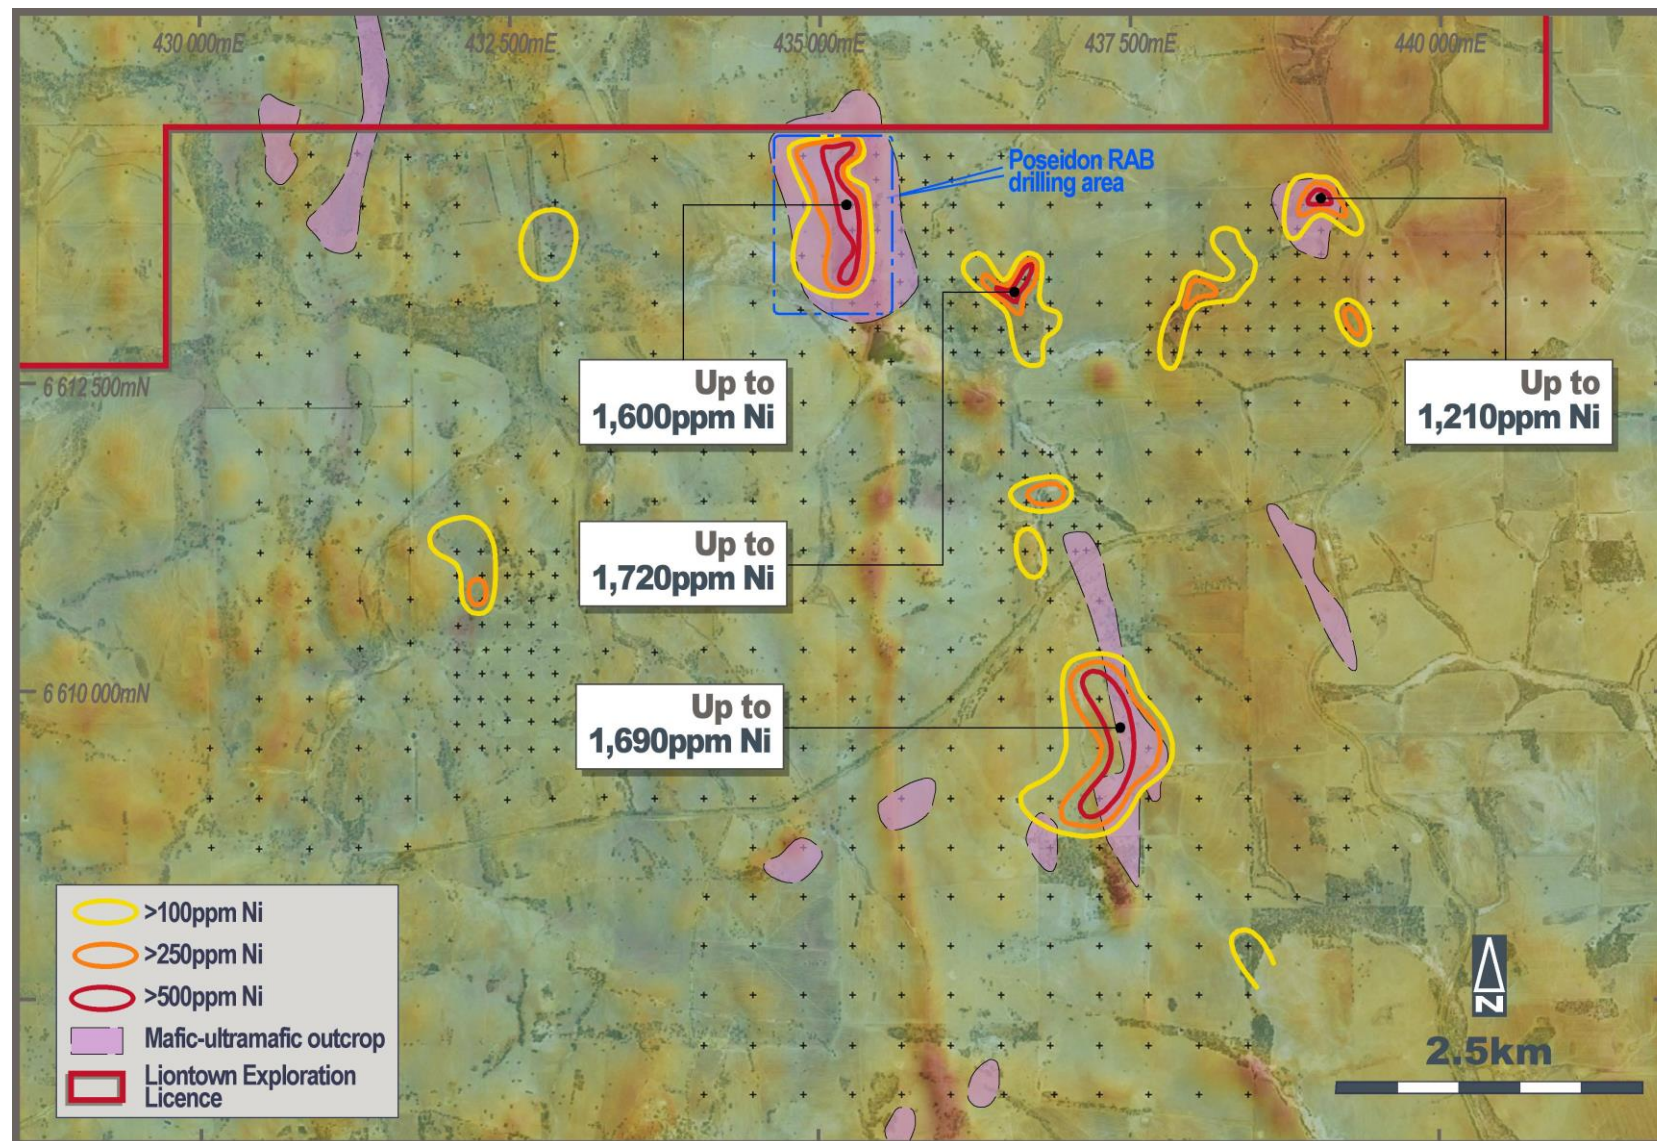

Figure 4: Moora Project/Bindi Bindi area: Aerial photograph over coloured magnetic image showing nickel anomalies
- The 7x7km **Bindi Bindi Nickel area** (**Figure 4**) located in the central part of the Project.
Bindi Bindi Nickel Area (Figure 4)
The area drilled by Poseidon is coincident with Liontown's northern-most nickel anomaly (**Figure 4**) and the intersections were reported to be hosted by strongly weathered, oxidised ultramafic rocks. Poseidon interpreted the elevated nickel values to be related to primary sulphides at depth based on the steep orientation of the mineralised zones and the presence of anomalous (>300ppm) copper nearby.